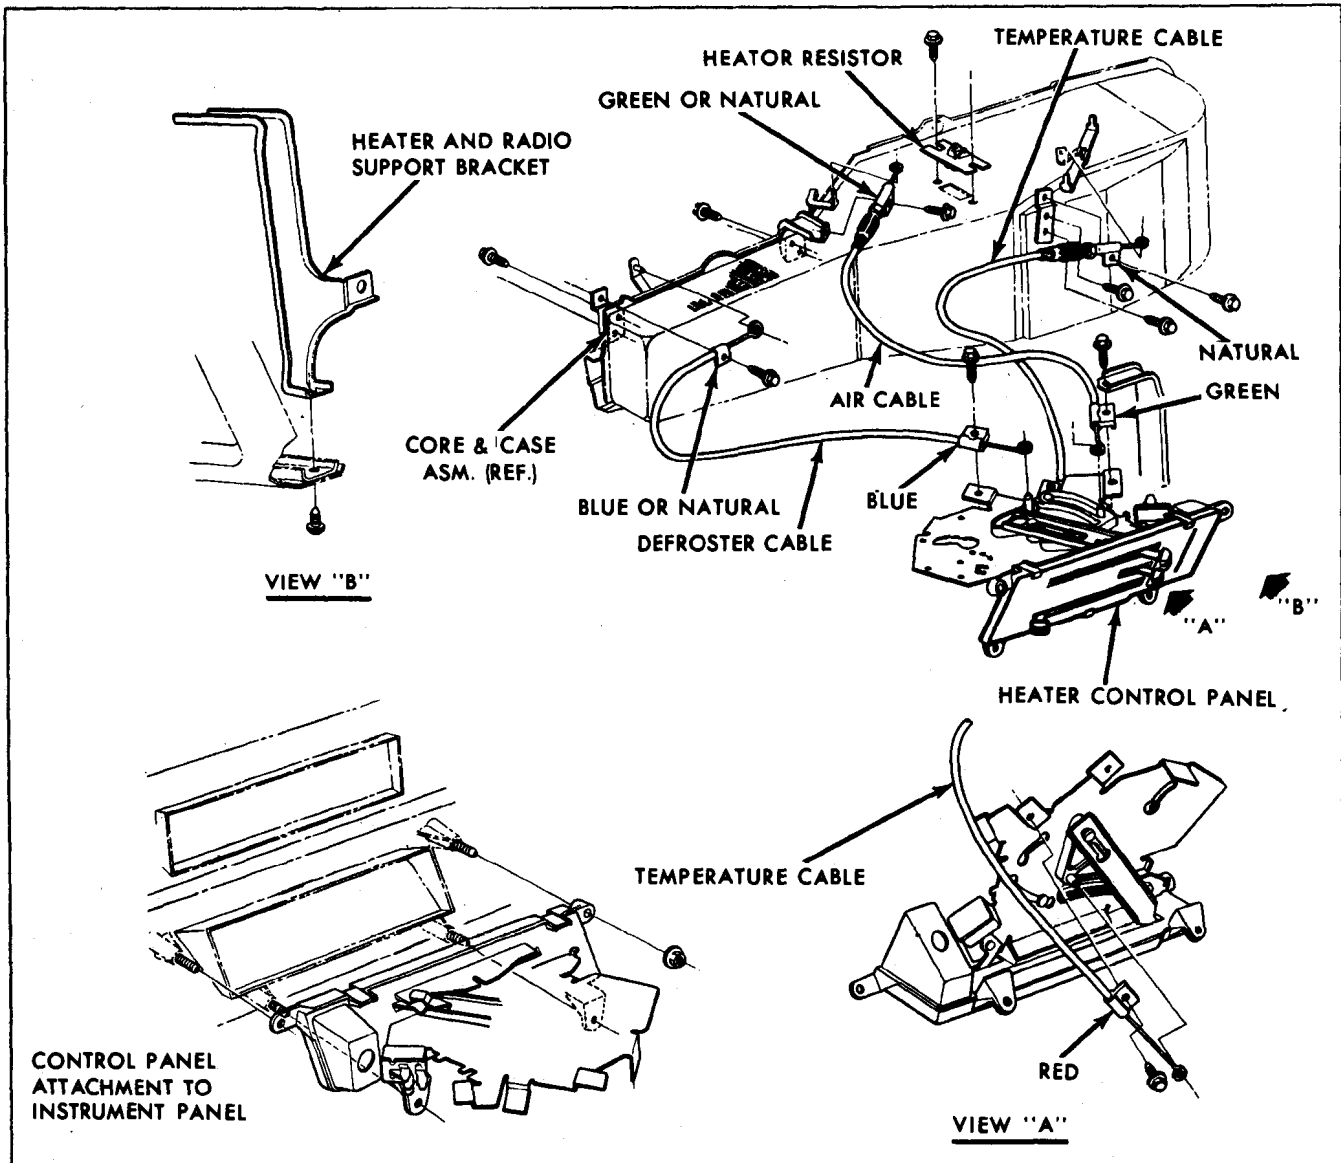
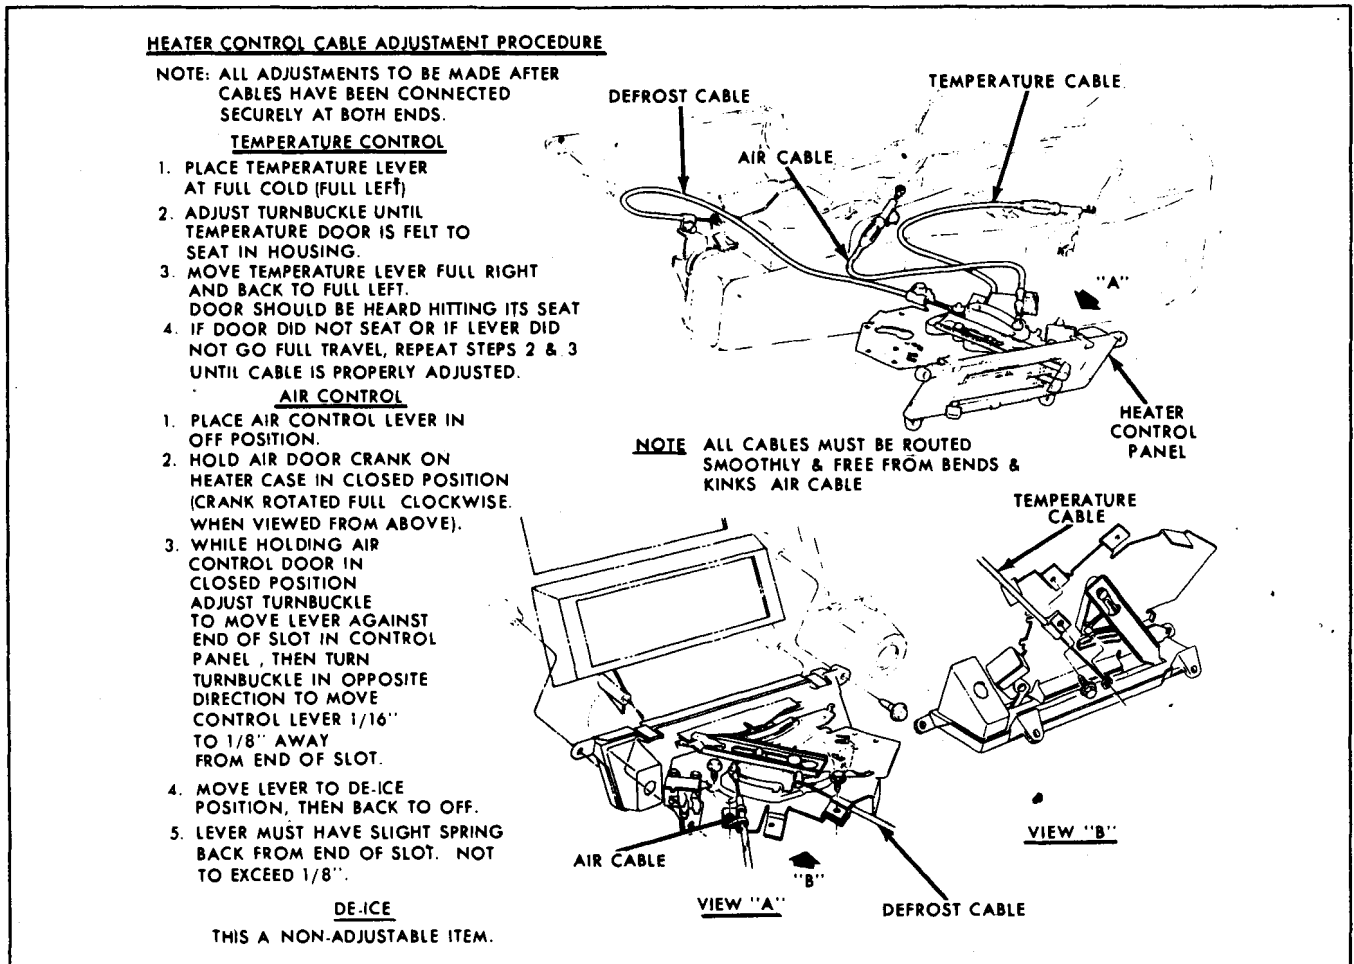

Fig. 1-3 Tempest-Heater Cable Routing
Fig. 1-4 Firebird-Heater Cable Routing
2. Hold lever on top of heater case, Fig. 1-3 Tempest or Fig. 1-4 Firebird, in full cold position (Full left or clockwise when viewed from above).